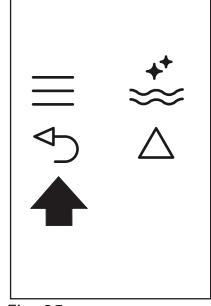

Fig. 25
- Press the icon \leftarrow (B6) (Fig. 25) twice to exit the menu.